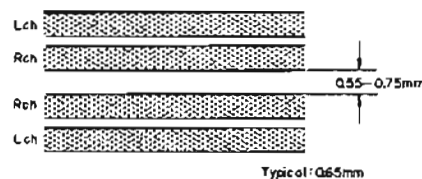

Fig. 2.17
- (i) Immerse the recorded tape in a magnetized developing solution. In turn, check to insure that the recording head tracks across the center are separated with a distance of 0.55 to 0.75 mm (typically 0.65 mm) as illustrated in Fig. 2.17.